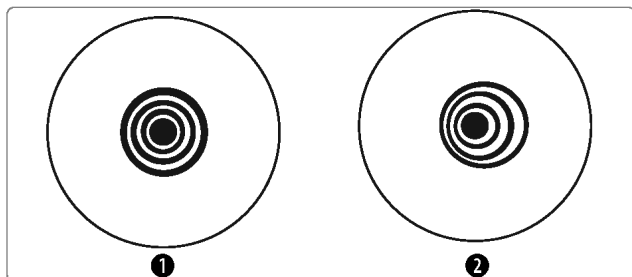

Figure 1. Correct (1) and incorrect (2) collimation as viewed during a star test.
3. Bring the star out of focus by about 1/2 turn on the focus knob. The defocused star pattern should look concentric, with the secondary mirror shadow centered to star pattern. Everything should look circular as it does in Figure 1. If the pattern is not concentric, or if it looks elliptical (2, Fig 1), you will need to make and adjustment to the primary mirror.
4. The primary mirror cell is adjusted using three adjustment screws and three locking screws. To collimate the primary mirror, first loosen each of the locking screws by turning them counterclockwise one full turn. Next make a small adjustment to the necessary adjustment screws and re-center the star in the eyepiece. Each adjustment screw can tilt the primary mirror and has limited range of adjustment. Using a 2.5mm and 4mm Allen wrench, make small adjustments until the defocused star image looks like "1" in Figure 1. When complete lightly tighten all three locking knobs to secure the mirror in place. Do not overtighten.